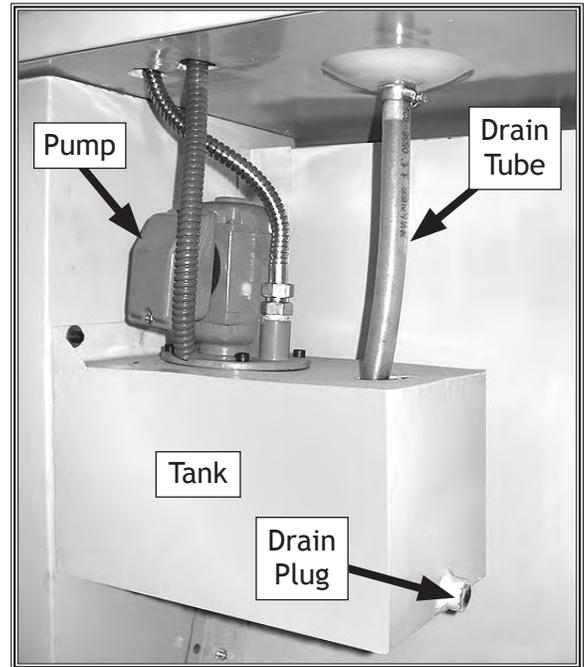

Figure 59. Coolant pump and reservoir.
3. Pull the clear plastic drain tube from the tank and let it hang free (Figure 59).